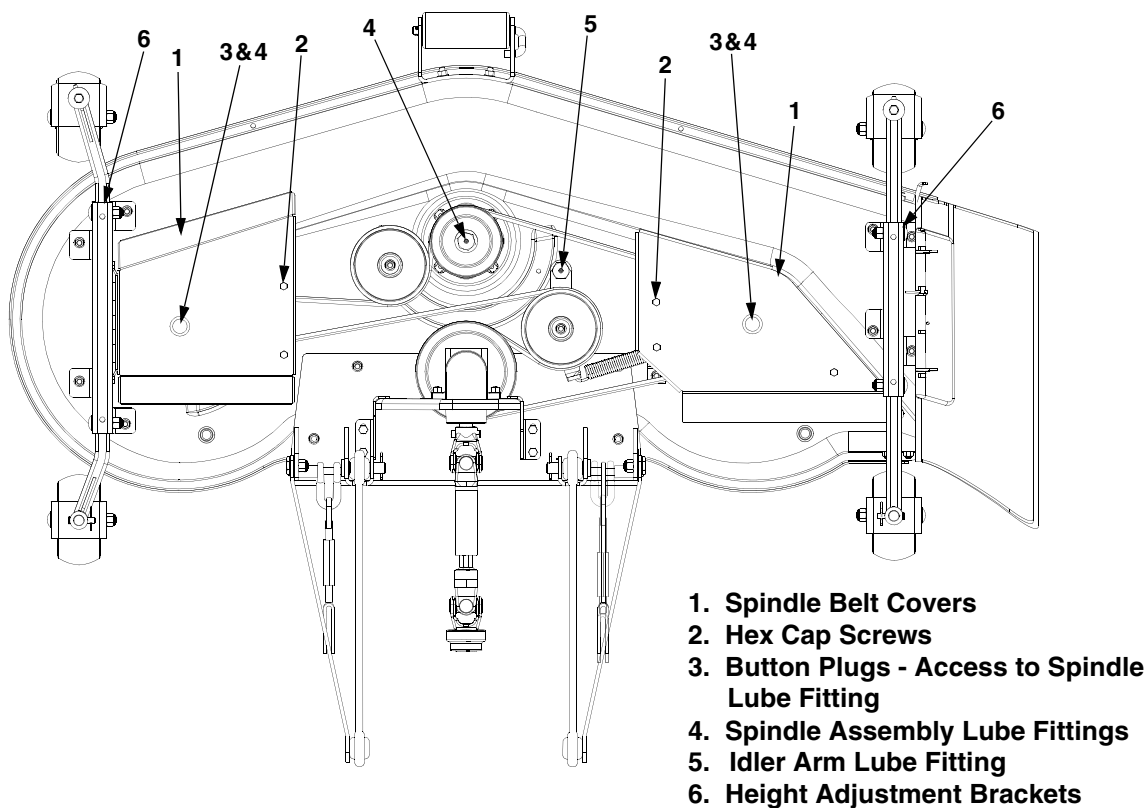
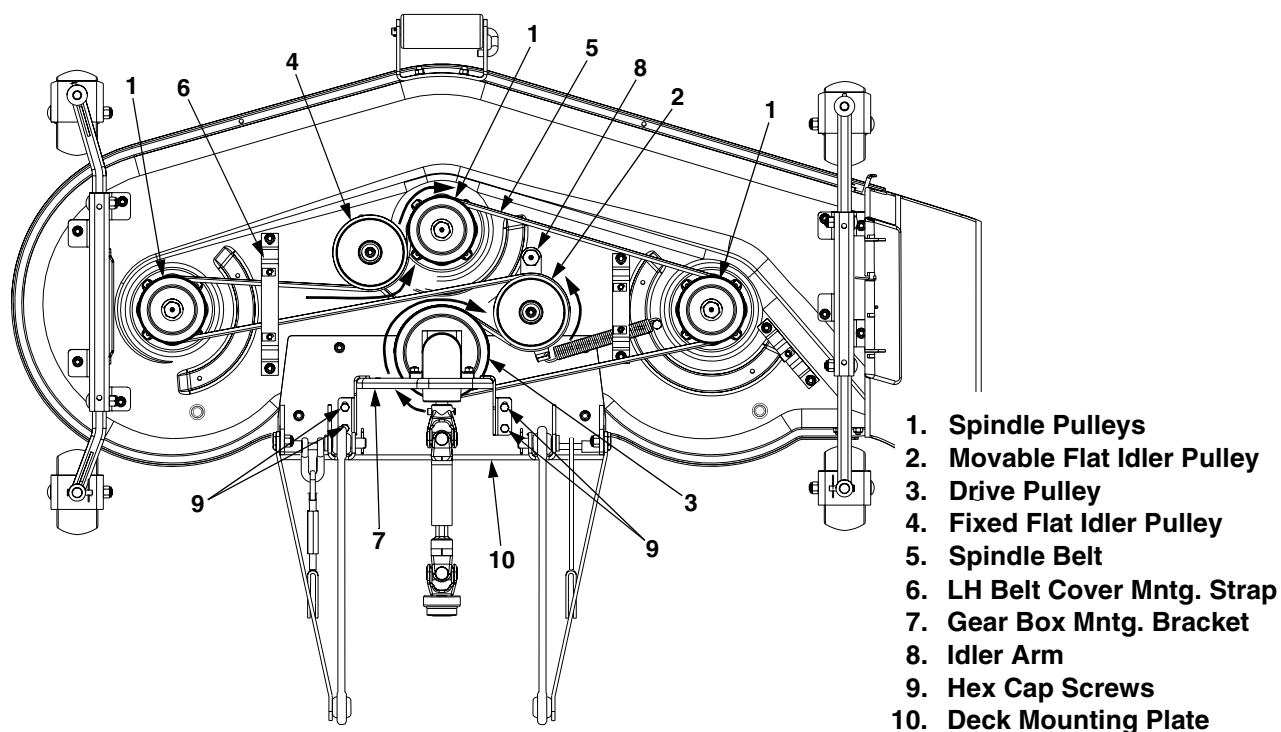

Figure 66
Figure 67
A worn spindle belt will affect the quality of cut from the mower deck and should be replaced. Referring to Figure 66 and Figure 67, replace the spindle belt as follows:
- Remove the hex cap screws securing the LH belt cover to the deck. Slide the belt cover tabs from the slots of the deck height adjustment brackets to remove the cover (See Figure 66).
WARNING: The idler arm and movable flat idler pulley (Refer to Figure 67) are under spring tension. To prevent possible injury, use caution when handling the idler pulley.
- Push the movable flat idler pulley (2, Figure 67) toward the left side of the deck to relieve tension from the belt. Slip the spindle belt off the movable flat idler pulley, then carefully release the flat idler pulley.
- Slide the belt off and over the LH spindle pulley, then pull the belt under the LH belt cover mounting strap. Refer to Figure 67.
- Slip the belt off the fixed flat idler pulley, center spindle pulley, and RH spindle pulley (Refer to Figure 67).
- Remove the four hex cap screws and hex flange lock nuts securing the gear box mounting bracket to the deck mounting plate. Refer to Figure 67.
- Lift the gear box/mounting bracket assembly and slip the belt off and underneath the drive pulley. Refer to Figure 67.
3. Route the **backside** of the belt around the movable flat idler pulley. See Figure 67.
4. Loop the belt and slide it underneath the LH belt cover mounting strap. See Figure 67.